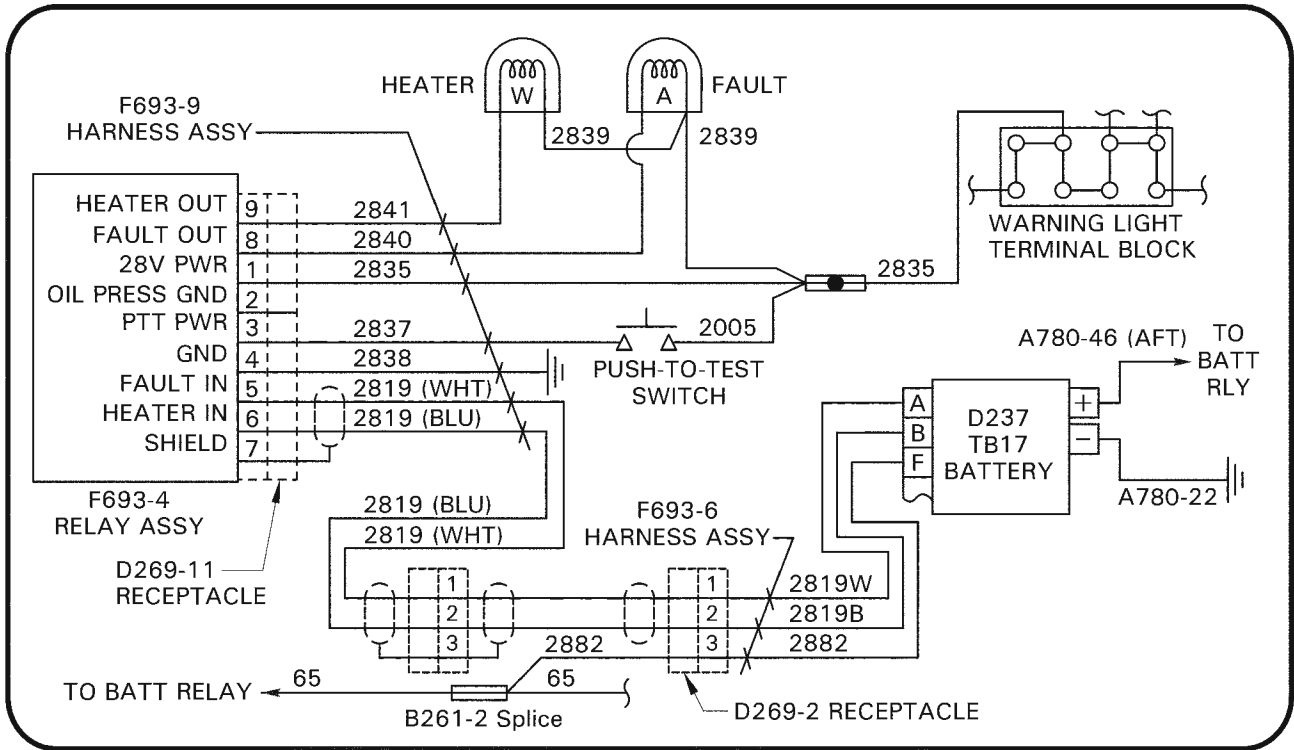

FIGURE 2 Schematic
13. Refer to Figure 2. Connect F693-4 relay assembly to F693-9 harness assembly's D269-11 receptacle. Secure plugs using MS3367-4-9 ty-raps. Secure relay and harness assembly along airframe harness using appropriately sized ty-raps. Cinch ty-raps until snug without over tightening, and trim tips flush with heads.
15. Refer to Figure 2. Route F693-9 harness assembly wires WHT (-2819), BLU (-2819) & (-2882) along main harness from lower console compartment to battery compartment. Follow main harness aft thru firewall, moving B270-5 sealant as required. Strip wires WHT (-2819), BLU (-2819) & (-2882). Install MS39029/58-360 pin (supplied with F693-9 harness assembly) on each wire. Verify security of pin. Slide B158-6 heat shrink over crimp wires. Insert pin into D269-2 receptacle (supplied with F693-9 harness assembly); verify security. Apply heat to B158-6 heat shrink over wires and receptacle using heat gun.